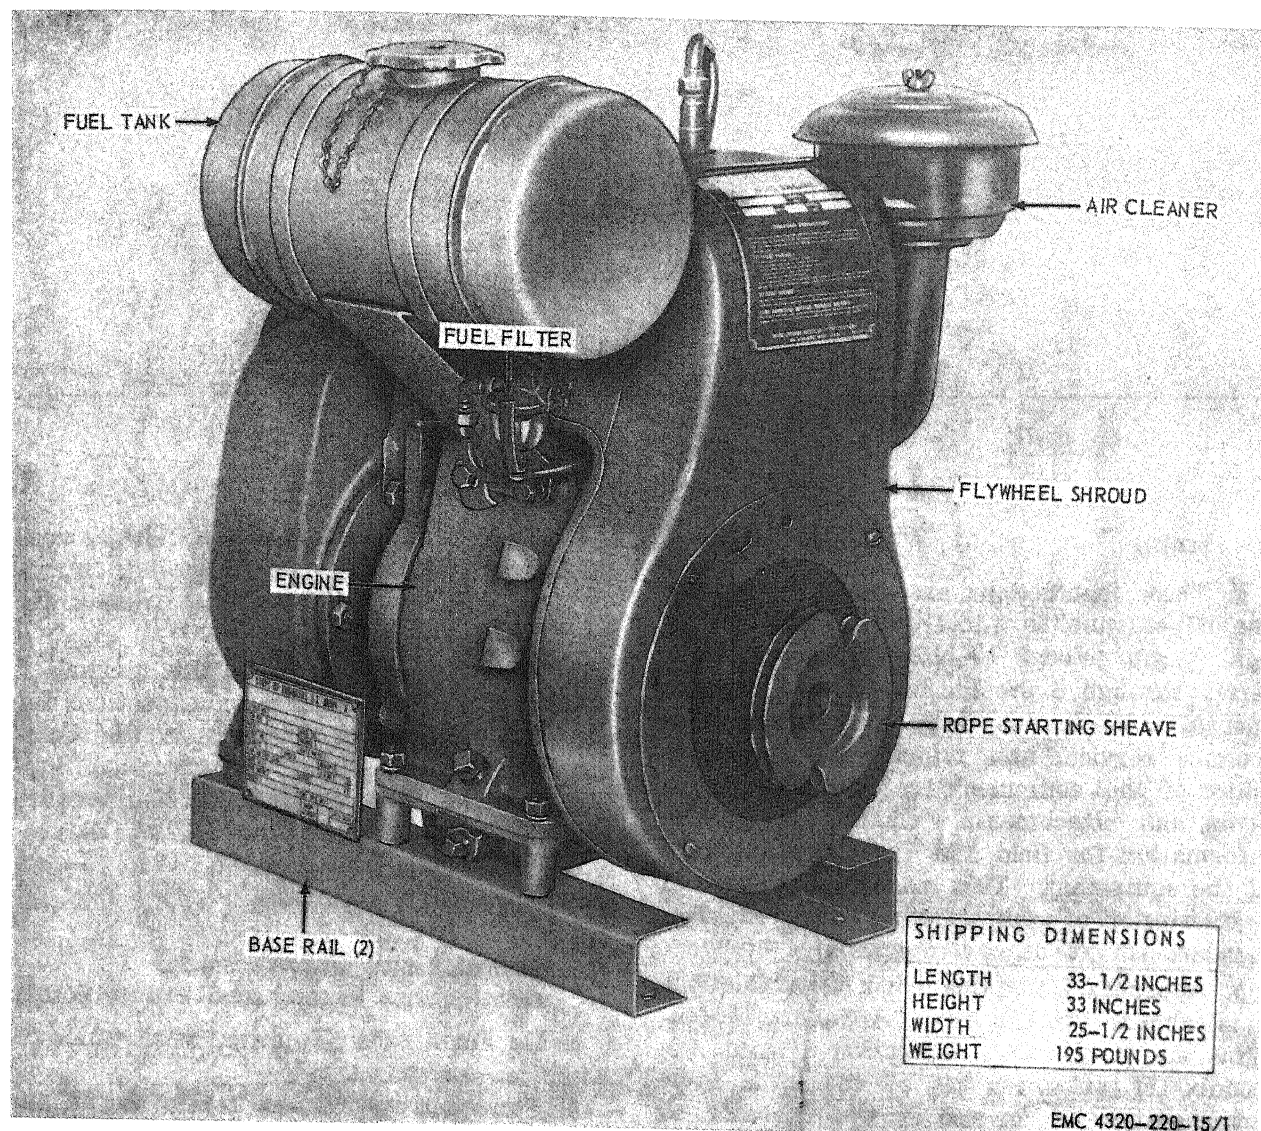
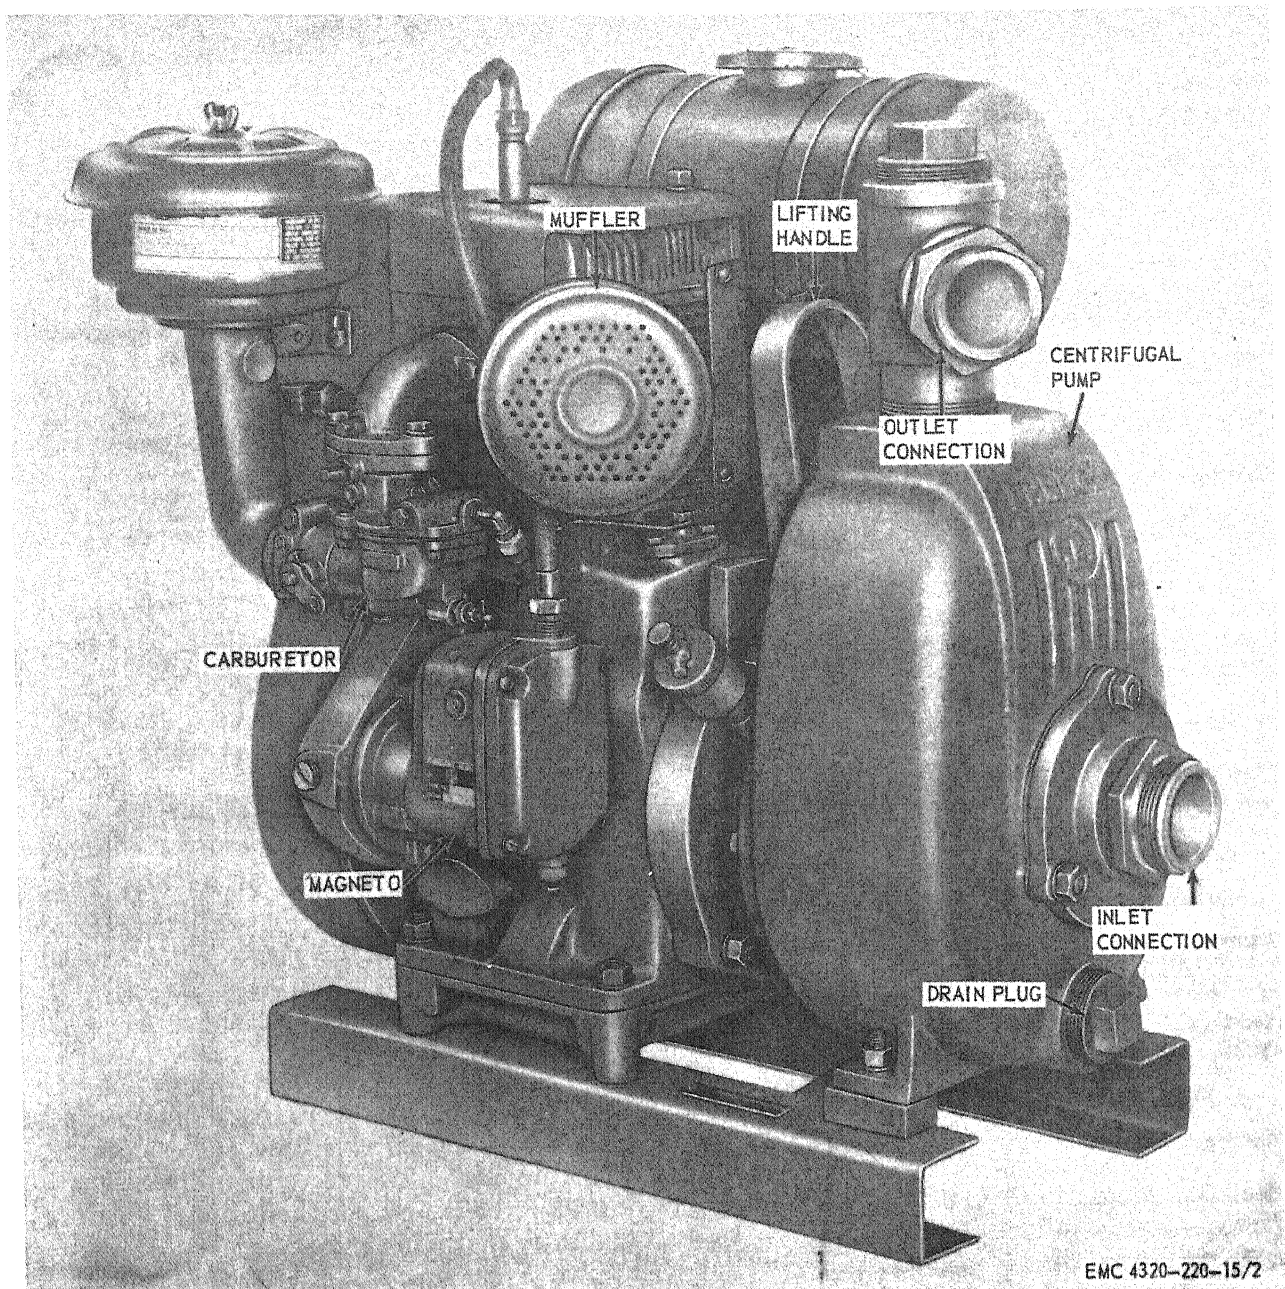

Figure 1. Centrifugal pump, right front three-quarter view.
Figure 2. Centrifugal pump, left rear three-quarter view, with shipping dimensions.
a. *General.* The Barnes Centrifugal Pump, Model 10-MG (figs. 1 and 2), mounted on two base rails (fig. 2), is a portable, self-contained unit. It is powered by a one-cylinder gasoline engine (fig. 1) that is directly coupled to the pump (fig. 2) with all controls and indicators necessary for normal operation.
b. *Engine.* The Wisconsin Engine, Model MAENLD (fig. 1), which powers the centrifugal pump, is an air-cooled, single-cylinder, 4-cycle gasoline engine developing 6.1 hp (horsepower) at 3,600 rpm (revolutions per minute). Fuel is furnished by a float-type carburetor bolted to the cylinder crankcase. Ignition is furnished by a magneto with an impulse coupling to supply a powerful spark
for easy starting. Exhaust gases are piped to the outside of the unit through a muffler (fig. 1). A flow of air is forced to circulate through the flywheel shroud and around the cylinder crankcase fins to cool the engine.
c. *Centrifugal Pump.* The Barnes Centrifugal Pump, Model 10-MG, is a 2-inch water pump rated at 166 gpm (gallons per minute) at 25 foot-head. It is directly coupled to the engine (fig. 1).